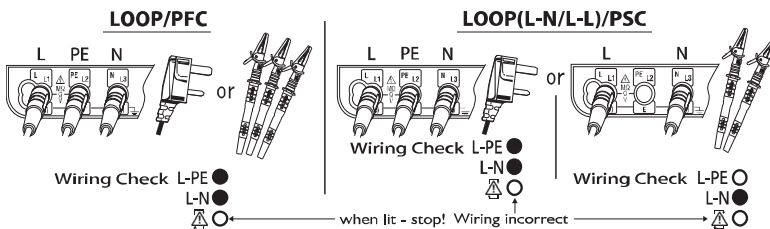

Fig. 31
(1) Press the Power button and turn on the instrument. Turn the Function switch and set it to either the LOOP or PSC/PFC position.
(2) Insert the Test Lead into the instrument. (Fig.31)
After the connection, ensure that the symbols for Wiring check on the LCD are in the status indicated in Fig.31 before pressing the test button.
If the status of the symbols for Wiring check differ from Fig.31 or  symbol is indicated on the LCD, DO NOT PROCEED AS THERE IS INCORRECT WIRING. The cause of the fault must be investigated and rectified.